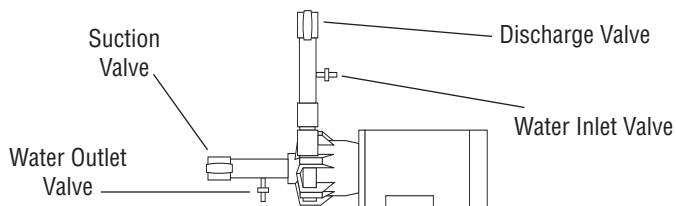

Figure 3
10. When pumping liquids which may solidify or crystallize, a flush system should be added to the piping. See Figure 3. Install water inlet and outlet valves as shown.